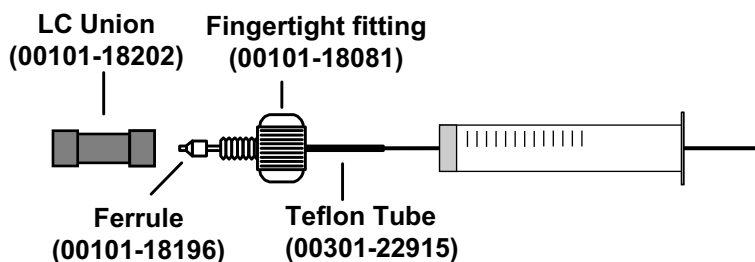

Figure 3-2. Syringe and syringe adapter assembly
3. While holding the plunger of the syringe in place, carefully insert the tip of the syringe needle into the end of the Teflon[®] tube on the syringe adapter assembly. See Figure 3-2.